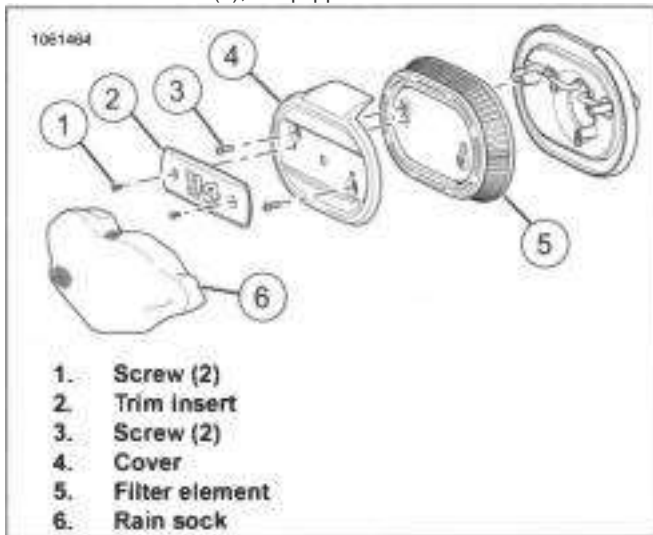

Figure 2-45. Air Cleaner: Oval
1. See Figure 2-45. Install cover and filter element.
- a. Install filter element (5).
- b. Install cover (4).
- c. Install screws (3). Tighten.